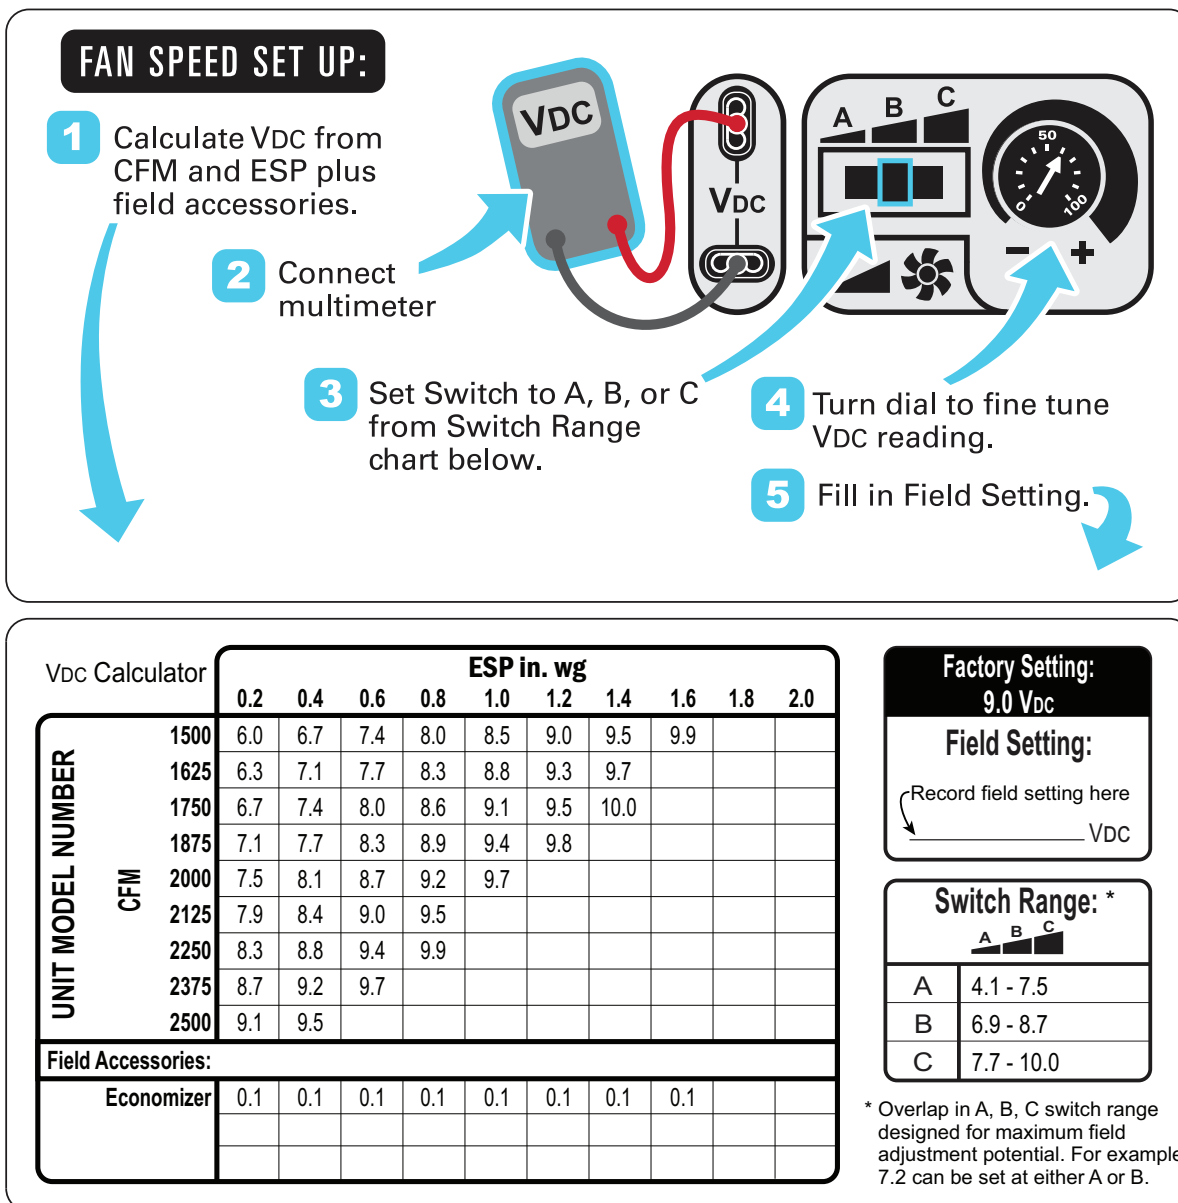

Fig. 73 — Example of Fan Speed Set Up Labels for Electromechanical Controls
2. Using the chart on the Fan Speed Set Up labels (see Fig. 73), calculate the vdc from the CFM and ESP for the base unit. Then add vdc for any accessories installed per the “Field Accessories” section of the label.